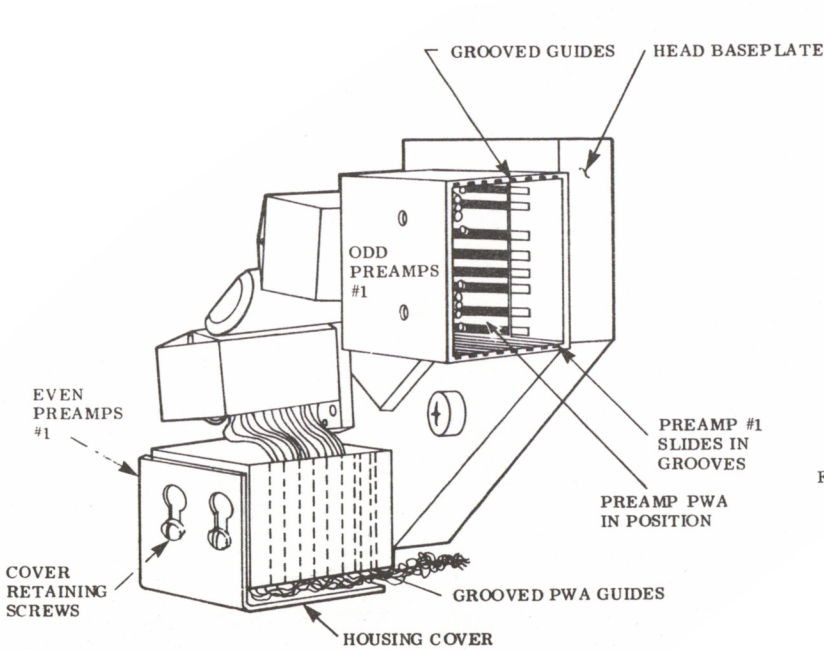

Figure 10-8A. Head and Preamplifier #1 Housings
- a. Loosen the two cover retaining screws holding the preamplifier No. 1 housing cover and remove it. See Figure 10-8A.